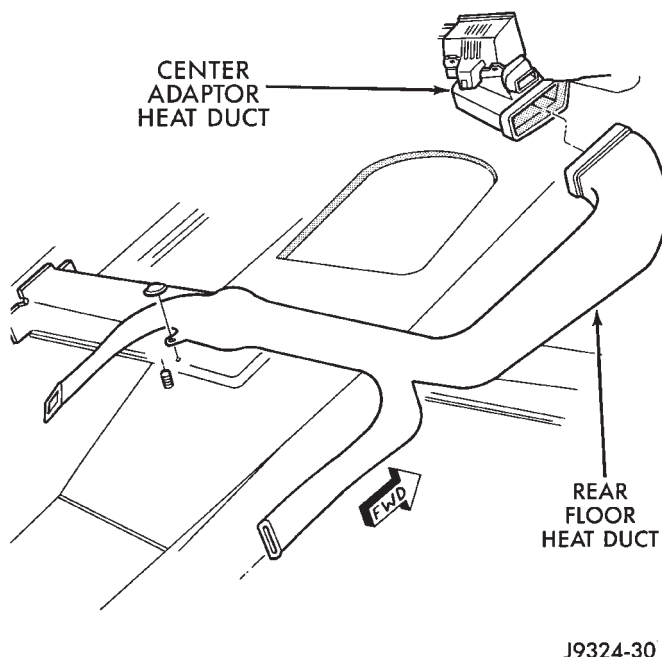

Fig. 12 Rear Floor Heat Duct
(11) Disconnect the rear floor heat duct from the center adaptor heat duct (Fig. 12).